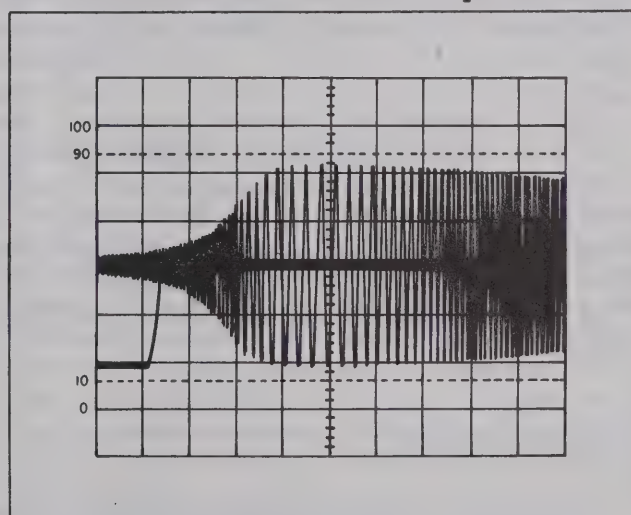

Fig. 26. Frequency Response Envelope.
3. Connect the output of the equipment under test to the **CH 1 (X)** input on the oscilloscope.
7. The oscilloscope display should now show a frequency response envelope. The response in Fig. 26 is that of a circuit that has attenuation at lower frequencies.